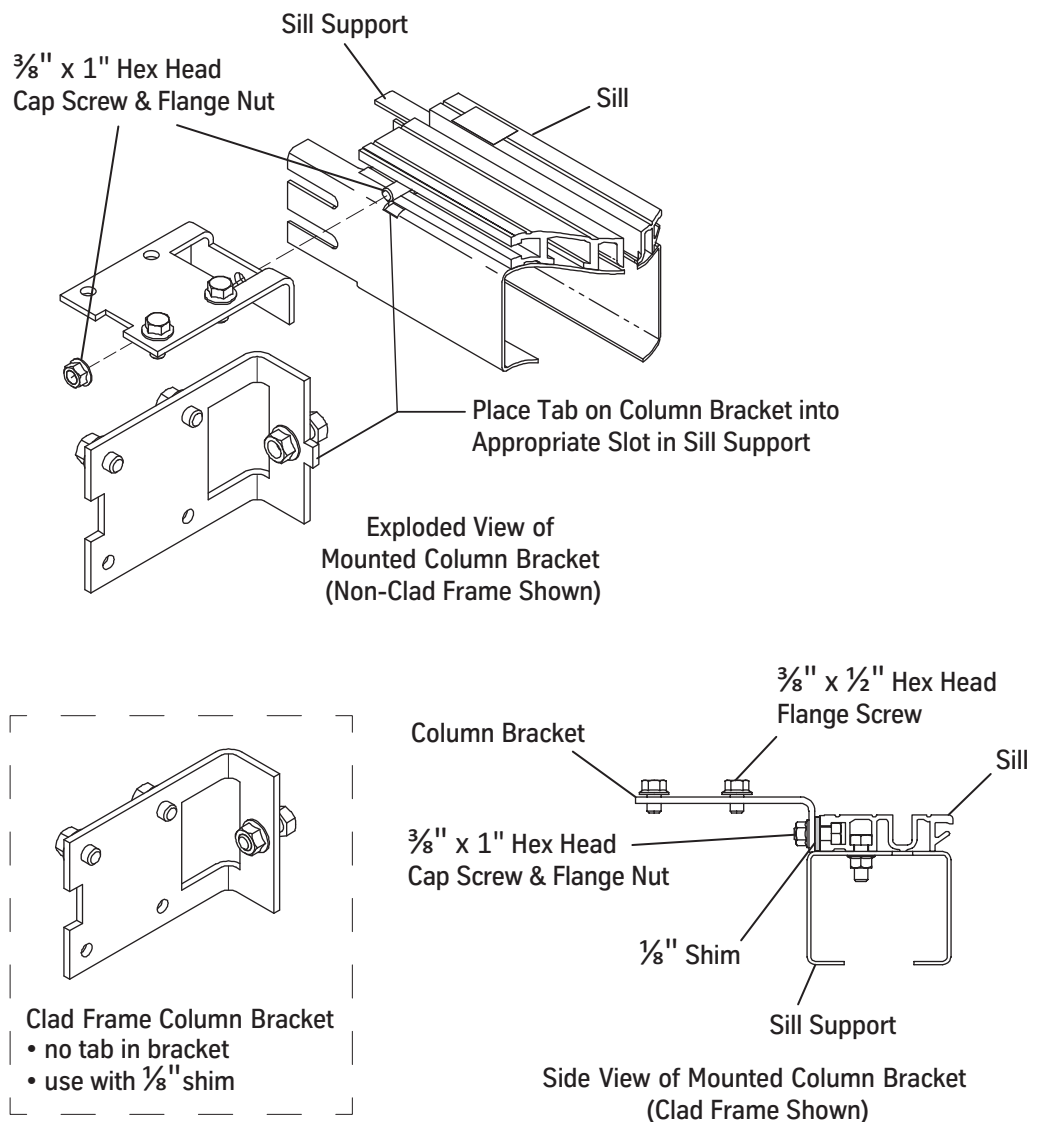

Figure 28 - Column Bracket Installation for Standard Sill
3. Remove the hex head cap screws from the column mounting brackets, and slip them into the slot on the back side of the sill. See Figure 28.